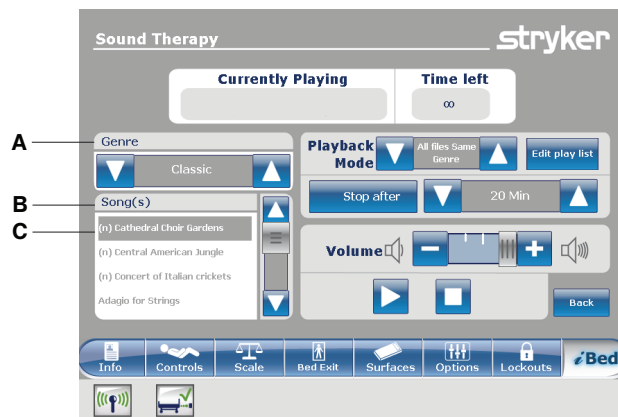

Figure 115: Sound therapy
2. Tap the up and down arrows to select a genre (A) (Figure 115 on page 102).
3. Tap the up and down arrows to scroll through the available songs in the **Song(s)** area (B) (Figure 115 on page 102).
Note: The song that is currently selected is highlighted in gray (C) (Figure 115 on page 102).
To return to the **iBed** main menu, tap **Back** (Figure 115 on page 102).
Tap **Edit play list** (Figure 115 on page 102).